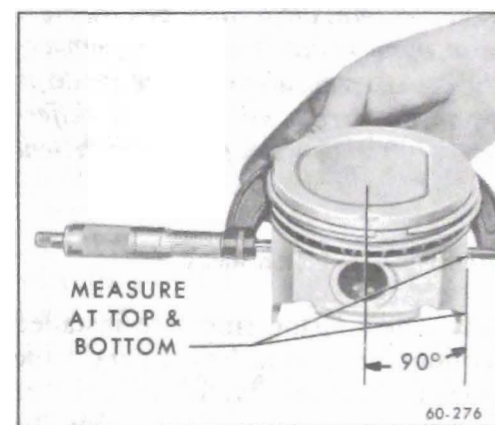

Figure 60-140--Measuring Piston
The pistons are cam ground, which means that the diameter at the right angle to the piston pin is greater than the diameter parallel to the piston pin. When a piston is checked for size, it must be measured with micrometers applied to the skirt at points 90° to the piston pin. See Figure 60-140. The piston should be measured (for fitting purposes) 1/2" below the top of piston.
for proper clearance. Before the honing or reboring operation is started, measure all new pistons with micrometer contacting at points exactly 90 degrees to piston pin (Figure 60-140) then select the smallest piston for the first fitting. The slight variation usually found between pistons in a set may provide for correction if the first piston has excessive clearance before sediment has a chance to settle.
2. Measure the piston to be installed. See Figure 60-140. The piston must be measured at right angles to the piston pin 2-1/2" below the top of piston. The piston must be between .0005" and .0011" smaller than the cylinder bore.